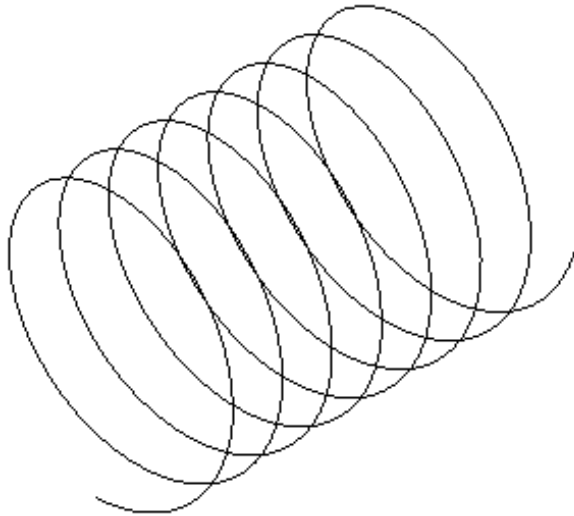

Figure 9-119 Helical curve
- a. First you need to create the helical path of the spring, refer to Figure 9-119.
The helical curve created using the above steps is shown in Figure 9-119.